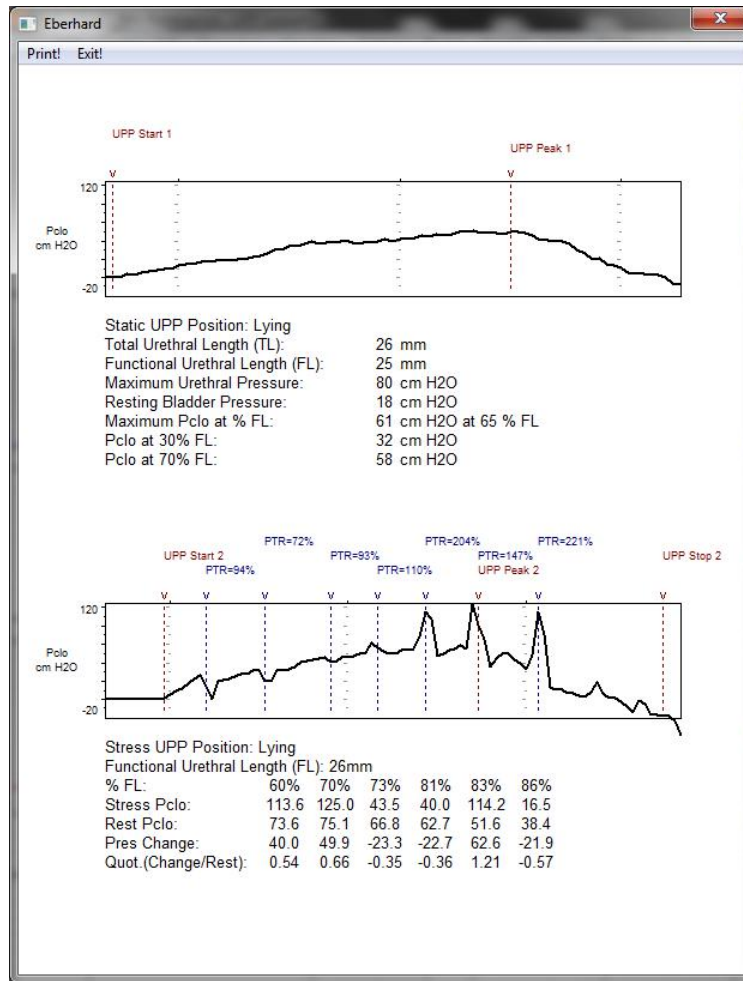

Figure 135: Eberhard Summary
1. From the *Eberhard Curve Options* window click **OK, Info > UPP > Eberhardt Curve > OK**. The **Eberhard** window will open to display the curves along with *Total Urethral Length, Pressures, Functional Urethral Length, and change information* (Figure 135).